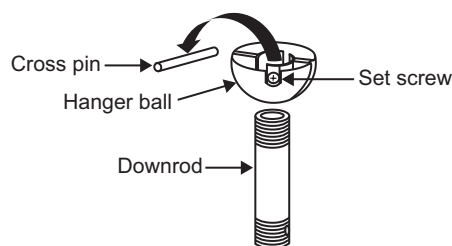

Fig. 8
Step 6. Remove the hanger ball from the downrod assembly by loosening the set screw, removing the cross pin and sliding the ball off the rod. (Fig. 8)